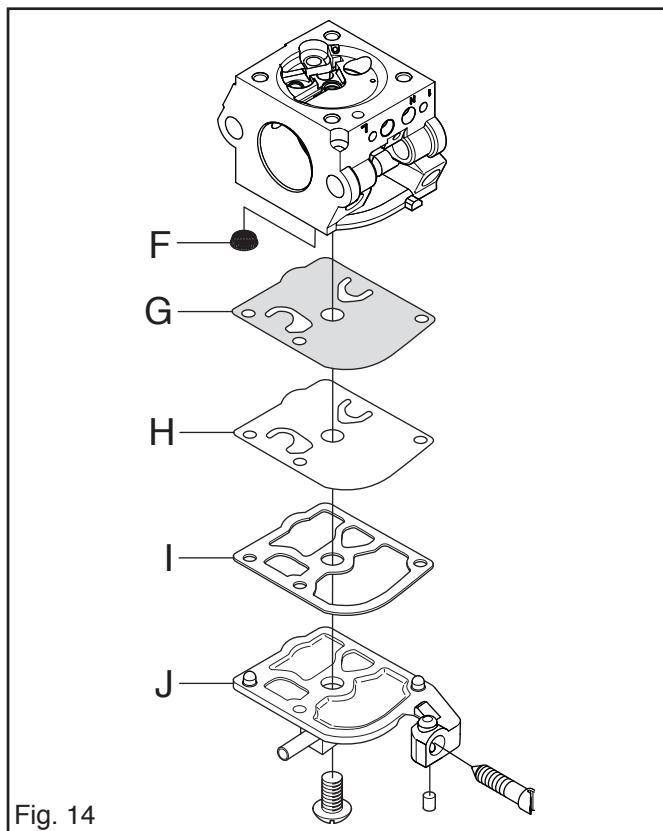

Fig. 14
3. Fit the fuel filter (F) by using the handle of a small screwdriver. See fig. 14.
4. Fit the pump diaphragmas (G and H), gasket (I) and cover (J) on the pump unit. See fig. 14.